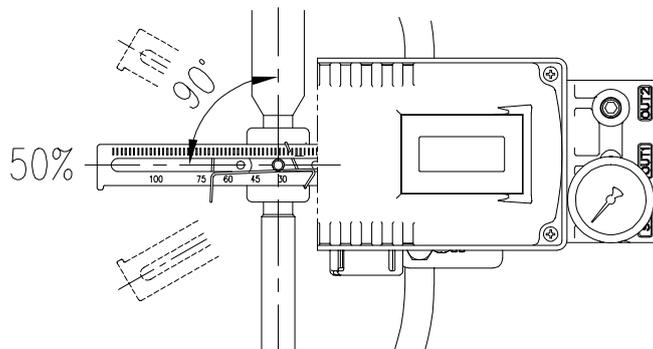

Fig. 3-12: YT-3300L / 3350L Feedback lever and valve stem
- 7) Check if feedback lever is vertical to the valve stem at 50 % of the valve stroke. If it is not vertical, adjust the adapter holder on the actuator's stem to make vertical – **DO NOT TIGHTEN THE ADAPTER HOLDER COMPLETELY**. Improper installation may cause poor linearity. Refer to Fig 3-12.